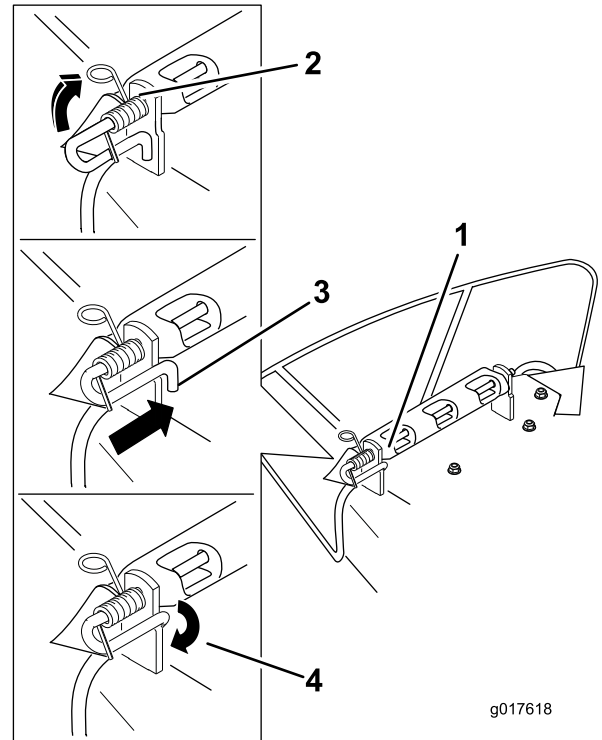

Figure 67
3. Position the new discharge deflector with the bracket ends between the welded brackets on the deck as shown in Figure 67.
5. Position the spring on the rod as shown in Figure 67 so that the shorter spring end comes from under the rod before the bend and going over the rod as it returns from the bend.
6. Lift the loop end of the spring and place it into the notch on the deflector bracket (Figure 67).
7. Secure the rod and spring assembly by twisting it so that the short end of the rod is behind the front bracket welded to the deck (Figure 67).